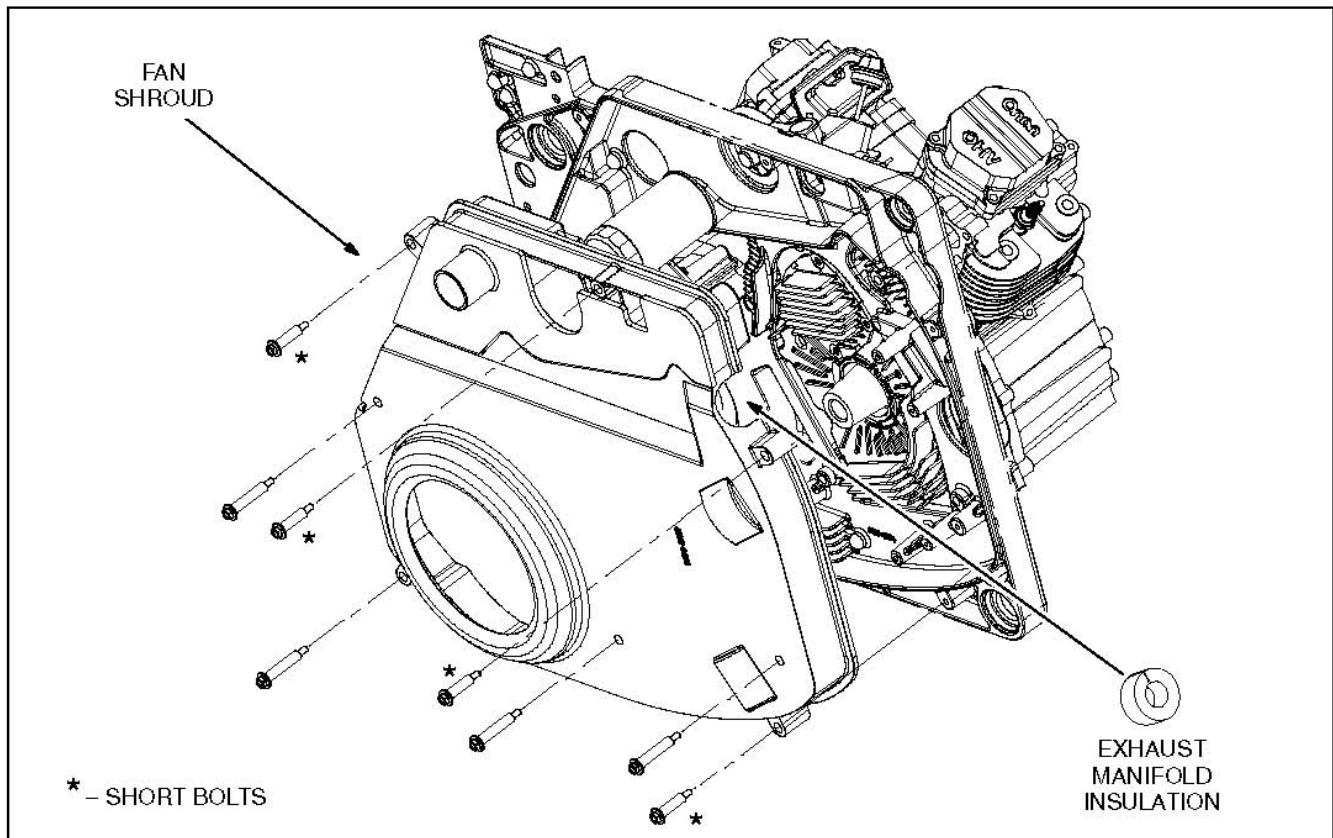

FIGURE 26. FAN SHROUD
The fan shroud (Figure 26) on the underside of the generator/engine assembly encloses the cooling fan, belt drive, flywheel, ignition coils (magnetos) and exhaust manifold.
2. Remove the eight fan shroud bolts and remove the fan shroud (Figure 26).
9. Install the fan shroud, making sure the exhaust manifold insulation (Figure 26) is in place. Note that the fan shroud bolts are of two lengths.
2. Remove the eight fan shroud bolts and remove the fan shroud. See Figure 26.